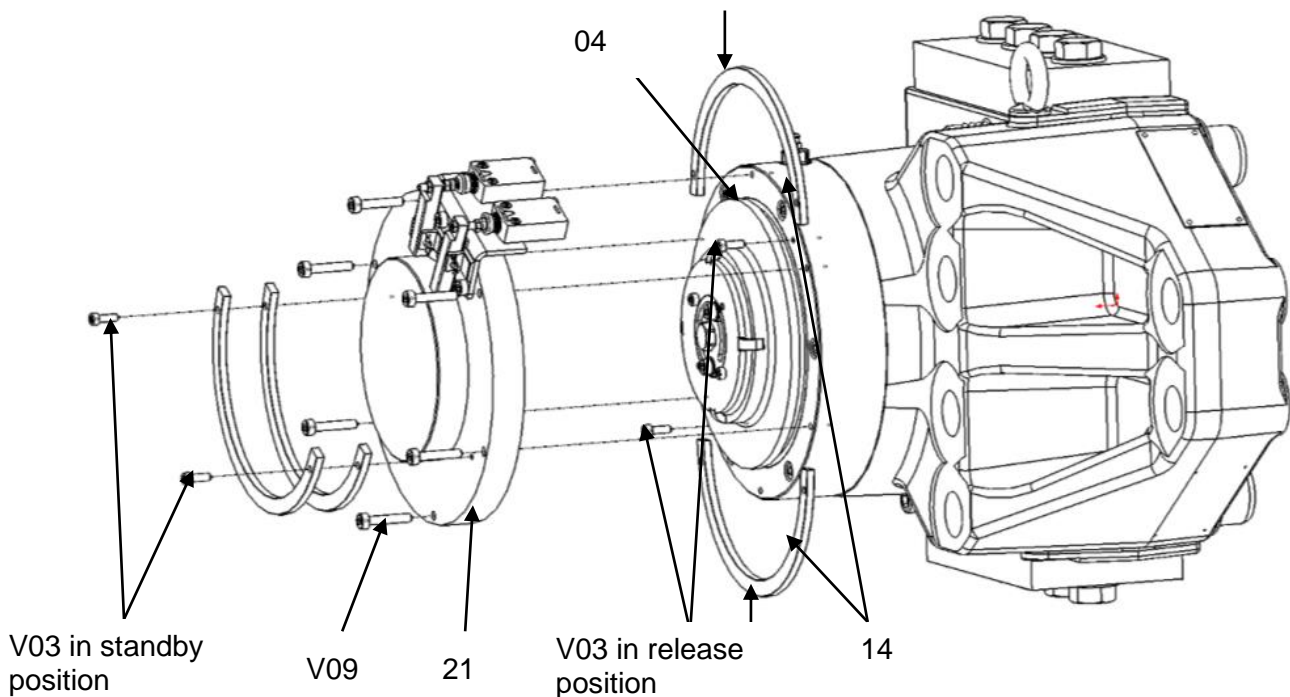
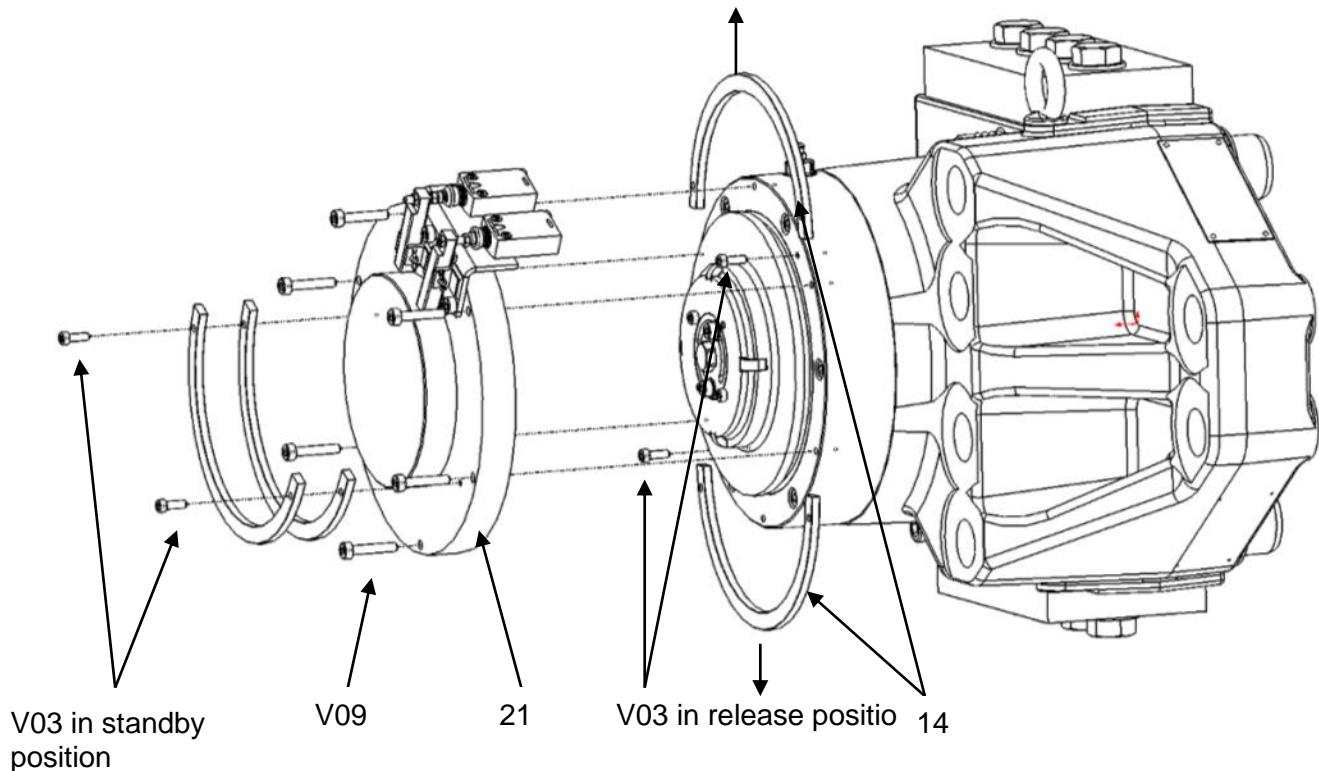

Fig. 5.2
Fig. 5.3
5. Put the 2 retaining segments **14** in the piston groove **04** Fig. 5.2.
4. Remove the 2 retaining segments **14** Fig. 5.2 and install them in the standby position on the cover **21**, one on the other, using the 2 screws **V03**. See Fig.5.3.
5. Reinstall cover **21** and retighten 6 screws **V09** Fig.5.2 chapter 5.1.
2. Remove the cover **21** by its 6 screws **V09** Fig.5.2.